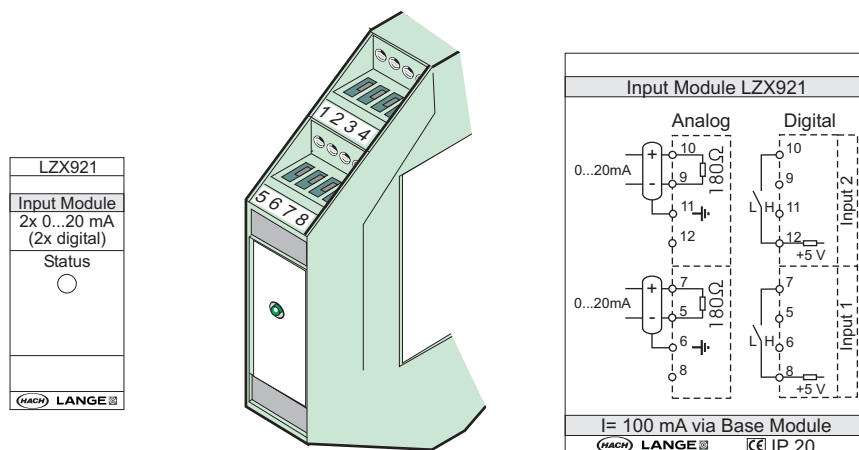

Figure 79 External input module
3. Make the appropriate connections as shown in Figure 79 and Table 52.